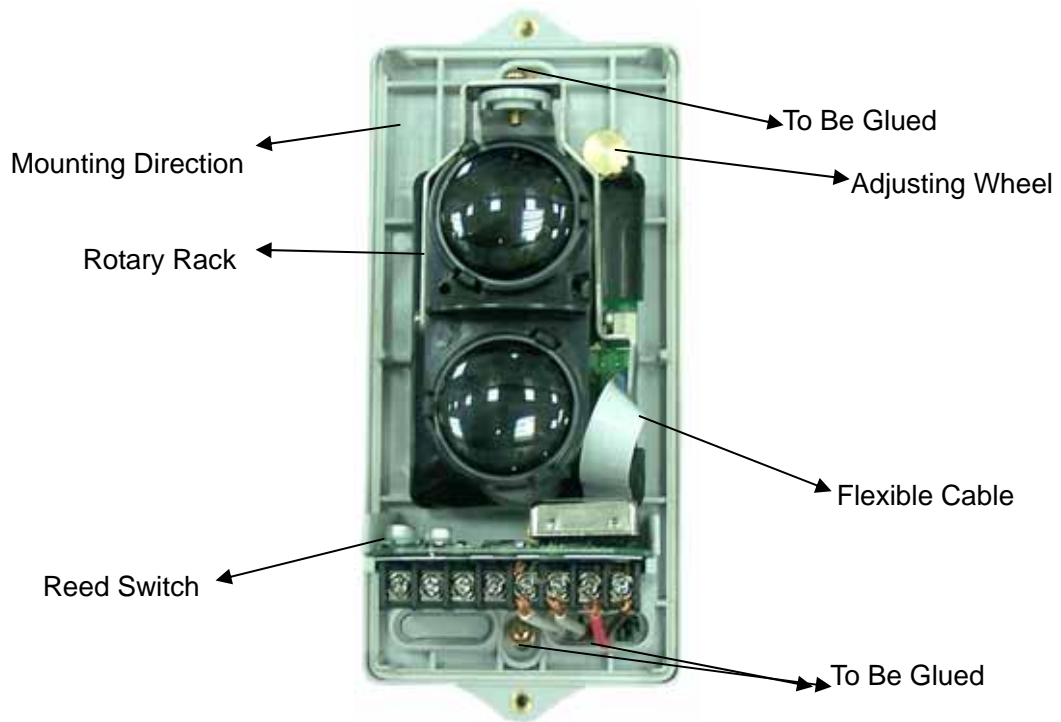

Fig. 2 Internal Devices and Positions to Be Glued
2. Internal devices of the detector and positions to be glued are shown in Fig. 2.
Note: If the detector is mounted in special environment where there are slight dust or where it's damp, seal the three positions shown in Fig. 2 (two mounting holes and one wire-in hole) with glass glue or 703 silica gel after the detector is fixed and wiring is finished to ensure the detector work stably.